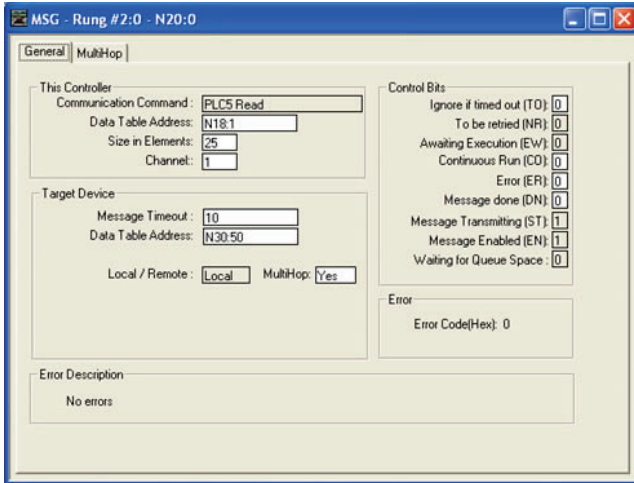

Figure 82: MSG Configuration, "General" Tab
- b) Upon hitting the <ENTER> key while in the “Control Block” entry box, the MSG Properties dialog box should appear (or it can be opened by clicking on the “Setup Screen” button at the bottom of the MSG instruction). Refer to Figure 82.